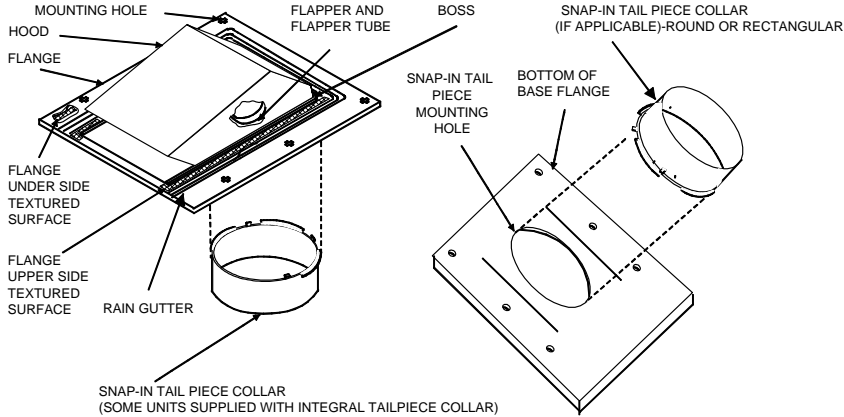

Figure 1. Roof Cap, Installation Part Locations
11. Apply a continuous 1/4- to 3/8-inch diameter bead of adhesive sealant to the textured surfaces that are located at the sides and rear of the hood on the upper side of the roof cap flange. Be careful to maintain the bead of adhesive sealant within the textured surfaces in order to avoid damaging the rain gutters. (See Figure 1.) Make certain that sufficient adhesive sealant bead is applied between the upper textured surfaces of the roof cap flange and the shingles to prevent water seepage into unprotected portions of the roof below.
2. If applicable, center and snap the tabs of the snap-in tail piece into the hole in the base (Fig 1) and firmly press the snaps into position. If necessary, gently rotate the snap-in tail piece back and forth to help seat it in the base. Make certain that the attachment is secure.
- b. Apply a continuous 1/4- to 3/8-inch bead of asphalt adhesive sealant to the textured surface that runs through the center lines of the mounting holes on the underside of the roof cap flange. (See Figure 1.) Use just enough sealant adhesive to seal against water leakage; application of too much sealant can cause damage or distortion to roofing materials. When the roof cap is being installed on “architectural” shingles, determine the size of the adhesive sealant that will provide an acceptable seal.